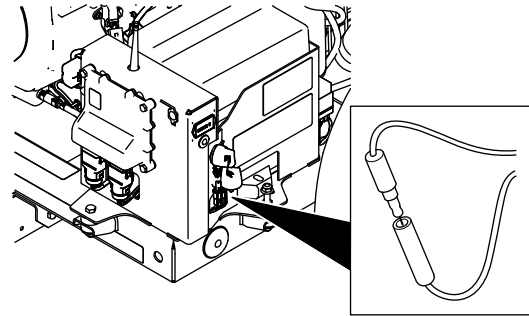

Figure 44
2. Remove the single-pin connector from the single-socket connector (Figure 44).
3. Plug the single-pin connector into the single-socket connector (Figure 44).